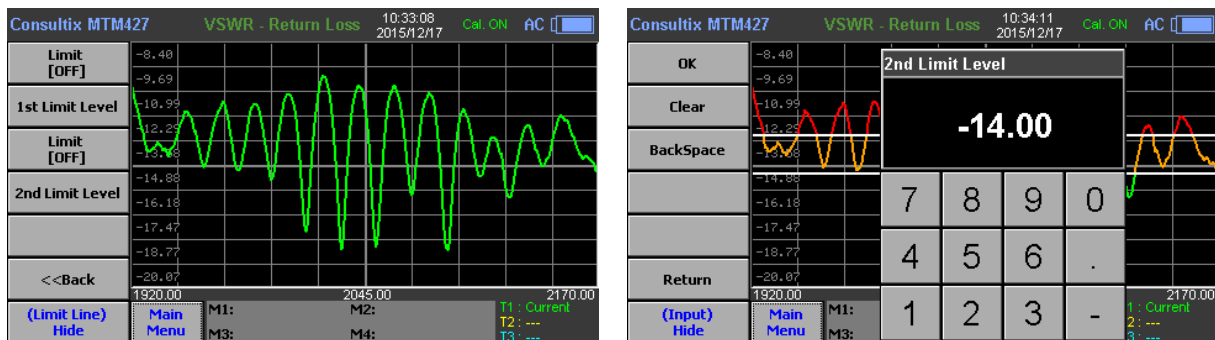

Figure 40: SiteWizard Limit Line
5. **Main Menu > Measurements > Amplitude**, click “Limit Line” key to open “Limit Line” menu, add up to two limit lines, and define their levels - out of these limits, measurements are not accepted and marked in red as shown in **figure 40**.